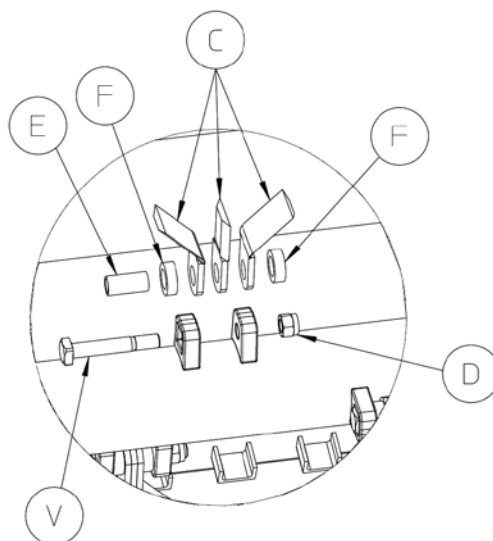

Figure 48
- Loosen the nut D, hold the blades C and slide the screw V out (Figure 48). Pay attention to the presence of the bush E and spacers F. When the blades have been removed, check the state of wear of the supports, in particular the ovalisation of the holes, the square seat of the screw head and peripheral wear. If the phenomena described are present, contact the manufacturer for indications.